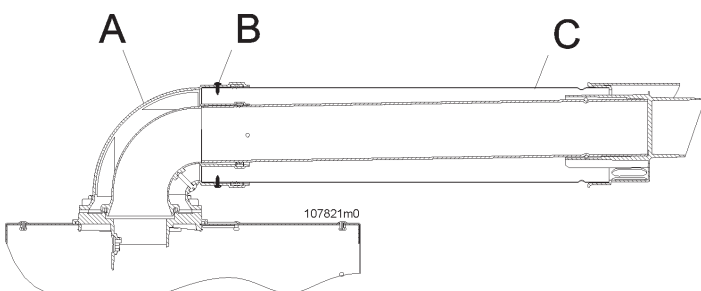

Figure 5-26 – Positioning the coaxial pipe
**WARNING!** Scrupulously follow the installation phases of the coaxial pipe as illustrated in figure 5-26. In particular: